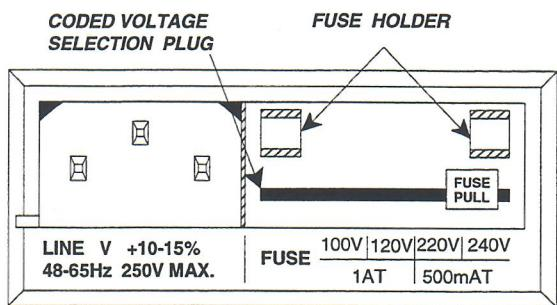

Fig. 5-1 Mains connector.
- Slide the protective plastic cover to the left to expose the fuse and coded mains plug. *See fig. 5-1.*